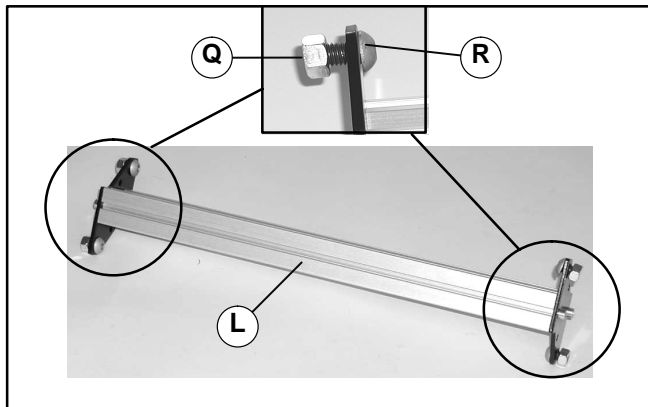

Figure 3
3. Install four button head screws (R of Figure 3) and hex nuts (Q) on crossmember (L). Do not tighten screws.